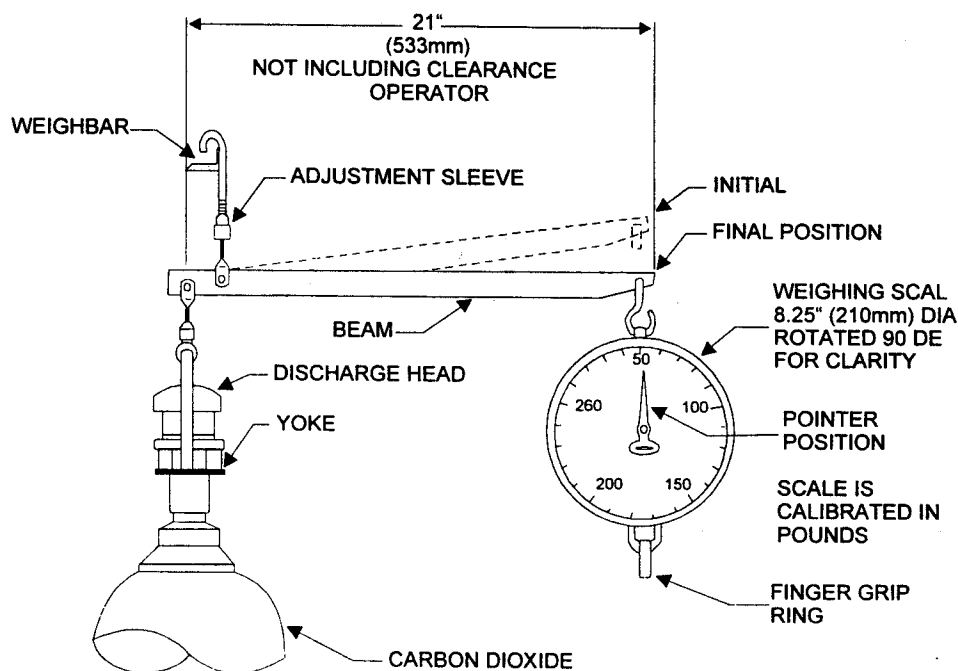

Figure 6.3.4.2 Weighing Carbon Dioxide Cylinder Using Scale P/N 982505
4. Hook scale on weighing angle and slip yoke under discharge head. Adjust lever as shown in Figure 6.3.4.2.